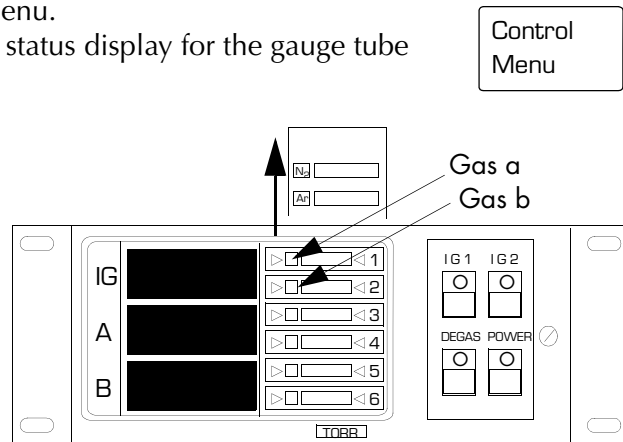

Figure 4-5 Control Unit Front Panel Showing Removal of Units of Measure Label Card
Note: If the Stabil-Ion Gauge calibration is for a gas type other than N₂ (or air), we suggest placing a label on the slip-in gas card display line indicating the gas type or types used for calibration to prevent mix-ups (see Figure 4-5 on page 4-11). Labels for common gases are provided as a part of the standard installation hardware. (See Figure 1-3 on page 1-2.)
8. To change the gas type label, open the door and lift the label card from its slot in the front panel. Gas type labels are included in the mounting hardware kit. See Figure 4-5.
8. To change the gas type label, open the door and lift the label card from its slot in the front panel. Gas type labels are included in the mounting hardware kit (see Figure 4-5 on page 4-11).